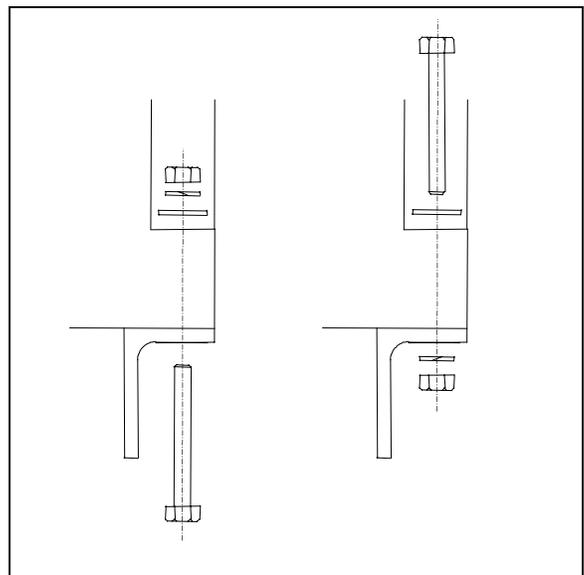

Fig. 14 Optional Hardware Orientation
2. Either mounting method shown in (Fig. 14) may be used.